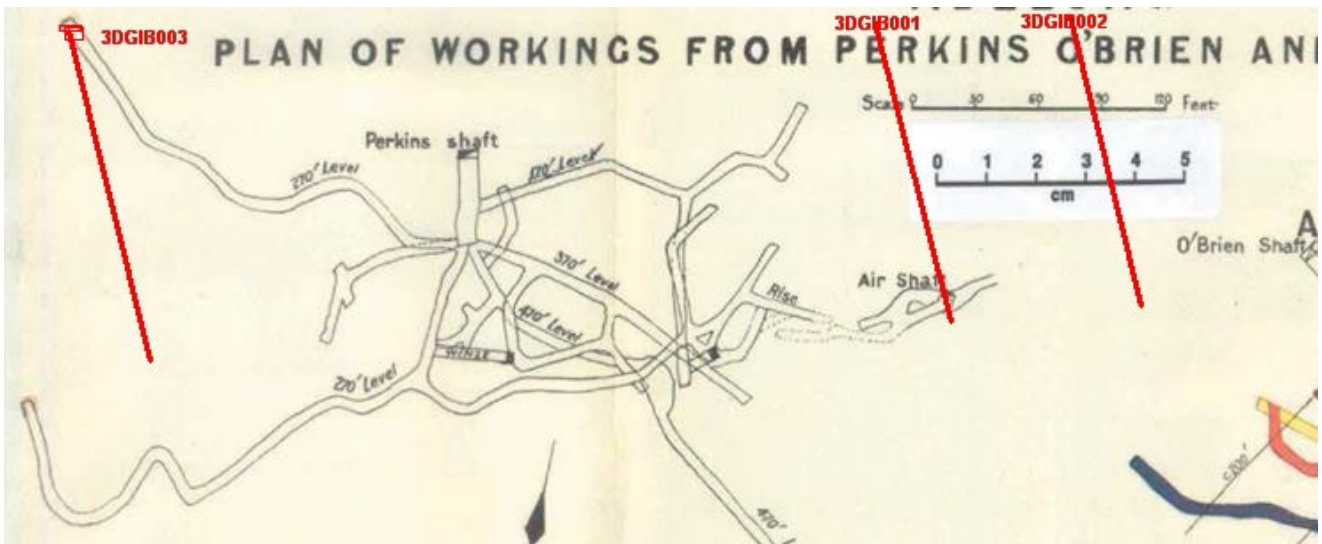

Figure 4: Showing the position of drill holes relative to the Perkin's Workings (image from MR21 NSW)
- The underground workings at Perkin's shows level development west of the shaft that is erratic so not following the typical NE trending vein structures (Figure 4) but obviously exploring a broader zone of structures for higher grades. This was verified by the recently announced 3DGIB003 which confirmed a series of quartz rich gold intersects that collectively added up to 11metres averaging 3.43g/tAu over a 46 metre interval. This zone could be wider as the first intersection was at just 2 metres depth. The area of workings to the east could host open cut resource potential but 200m to the west there has been a shaft that was obviously exploring the same structures but with no recorded production.